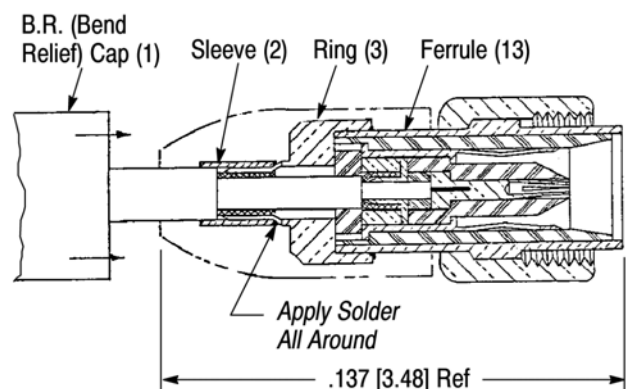

Figure 8
Slide bend relief cap (1) forward until it locks in place over ring (3). See Figure 8.